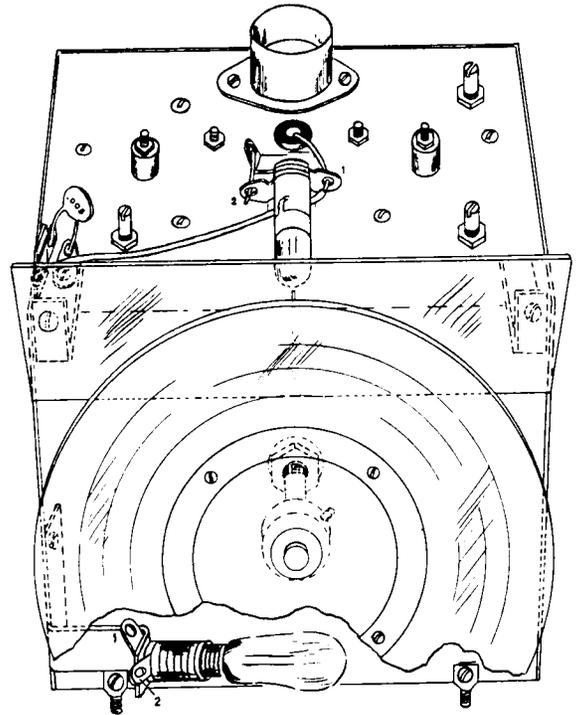

Figure 5
- ( ) Referring to Figure 5, insert a 1 1/2" 6-32 screw through a solder lug, then through the dial light bracket and chassis top. Position the dial light and solder lug as shown. On the underside of the chassis, slip a solder lug, a 1 1/8" spacer, another solder lug and a 6-32 nut over the protruding screw. Position the solder lugs as shown in Figure 2 and tighten.
- ( ) Mount the light shield to the top of the VFO chassis, using #6 sheet metal screws as shown in Figure 5. Include a single-lug terminal strip and solder lug on the right side as shown.
- ( ) Connect a black wire from terminal 1 of the pilot lamp socket (S) to the insulated lug of the 1-lug terminal strip (NS).
- ( ) Connect a .005  $\mu$ fd disc ceramic capacitor from the same terminal (NS) to the adjacent solder lug (S).